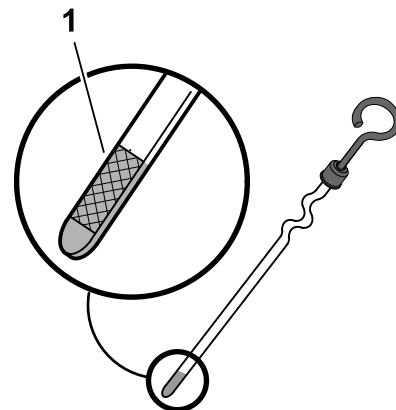

Figure 30
4. Insert the dipstick fully into the dipstick tube (Figure 30).